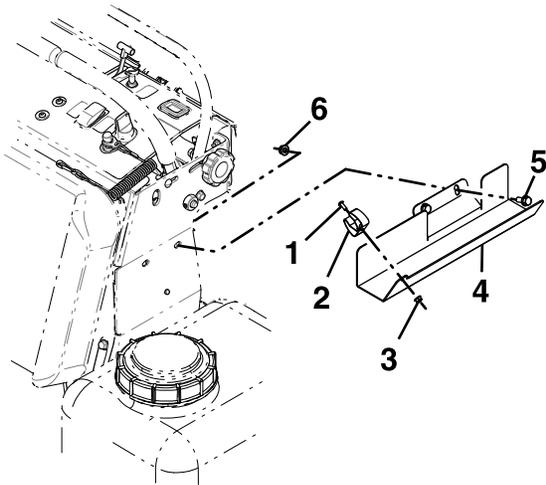

Figure 3
4. Assemble the tool holder to the spray wand tray using #10–24 x 1/2 inch screw and #10-24 inch nyloc flanged nut (see Figure 3). Install the spray wand tray to the right side of the tower using two 5/16–18 x 3/4 inch screws and two 5/16-18 inch nyloc flanged nuts.